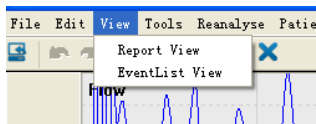

Figure 5.41
- 3) It contains “Report View” and “EventList View” in “Edit” menu, as shown in Figure 5.41, “Report View” menu is used to print reports, when clicking this option, the print preview interface as Figure5.42will appear, including such functions as Zoom In, Zoom Out, Next Page and Prev Page.